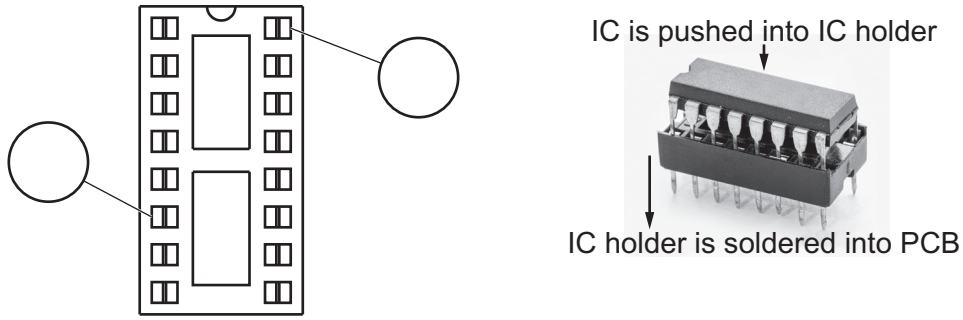

Fig. 12.2
- (iii) Fig. 12.2 shows details of an IC holder. Add the IC holder pin numbers to the circles.